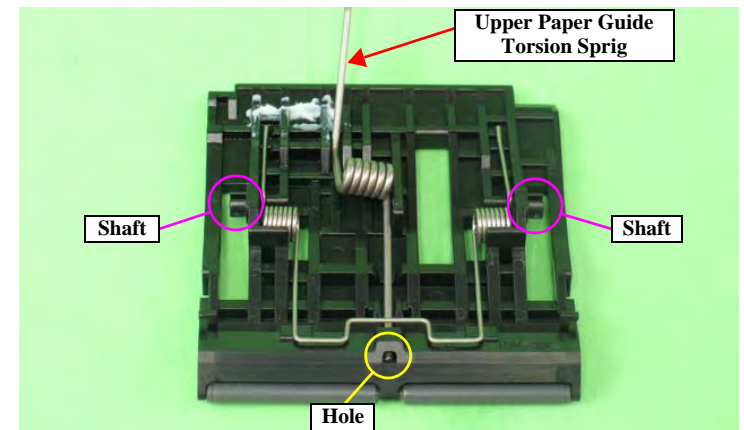

Figure 4-155. Reinstalling the Upper Paper Guide Torsion Spring
5. Lift the six Upper Paper Guide Assys from the Main Frame to release the shaft referring to Figure 4-155, and remove the Upper Paper Guide Assys to the rear.